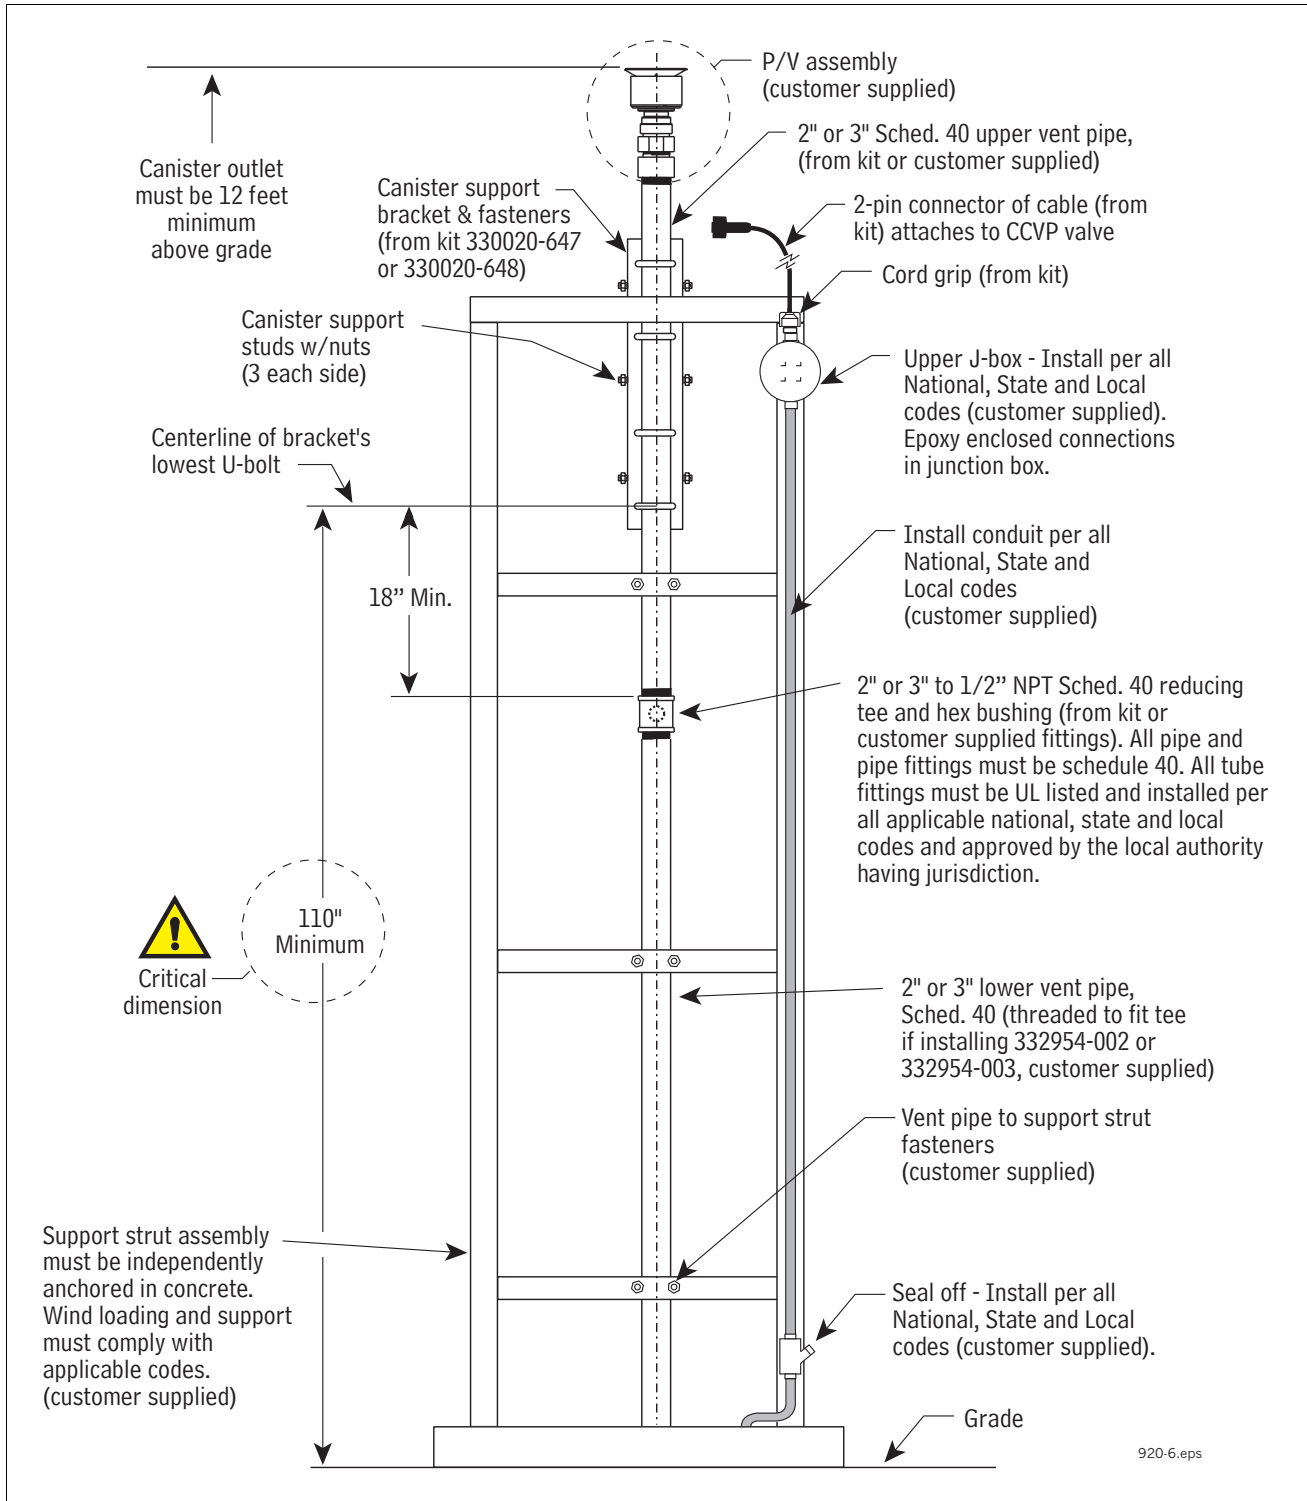

Figure 1. Typical direct wired installation example
-  6. **IMPORTANT! To ensure that the canister outlet is 12 feet (minimum) above grade, the CCVP mounting bracket must be positioned according to dimensions shown in Figure 1 and the U-bolts tightly clamped to the support structure before mounting the canister. The mounting bracket must be centered in line with the outlet of the tee before installing the CCVP.**
9. Install weather tight junction box, seal off and conduit per all NEC, state and local codes (see example installation in Figure 1).